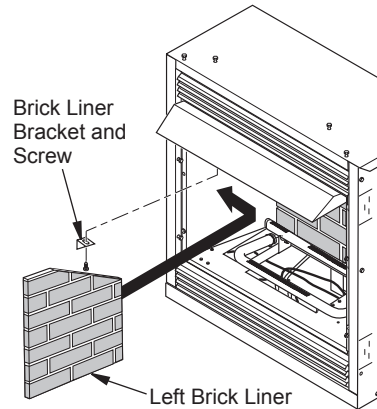

Figure 38 - Installing Side Brick Liners
3. Install left and right brick liners using brackets and screws from hardware kit as shown in Figure 38. Screw the bracket into top of firebox and against brick liners. Adjust bracket before tightening screw.